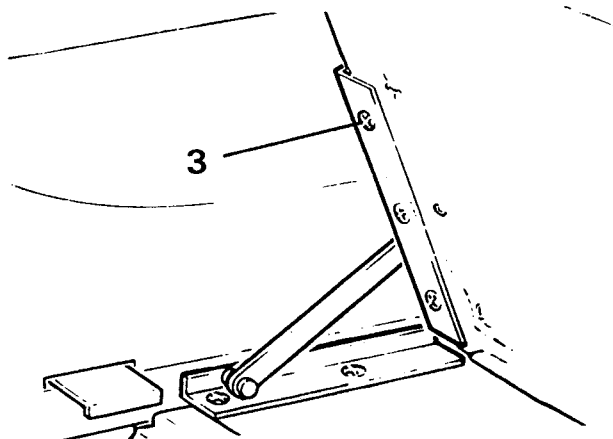

Figure 3
3. Remove the three screws securing the seat to its bracket. See figure 3. Remove the seat.